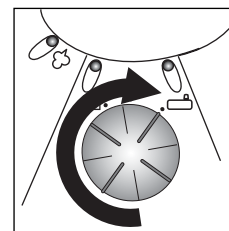
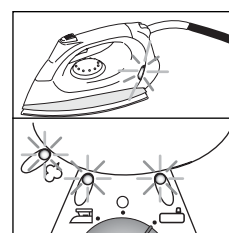

fig. 1
fig. 2
- Turn the selector to “” (fig 1) The 3 indicator lights on the base: steam (orange), iron and boiler (red) will come on. The iron temperature light (orange) on the iron handset will also come on (fig 2).